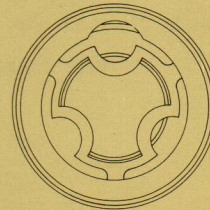
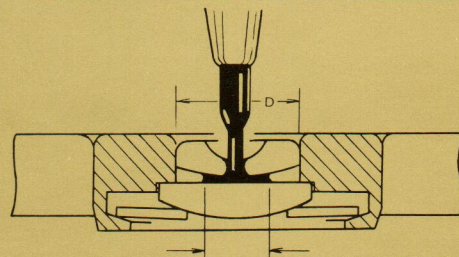

Fig. 7
Fig. 8
There is an another type of diafix which has the same frame and spring with diashock's. As for disassembling the spring. refer to "Diashock." Fig. 7
Apply the oil as shown in Fig. 7 after setting the cap jewel and the spring. Oil should be spread over a maximum of one-half and a minimum of one-third of the hole jewel diameter (D) Fig. 8